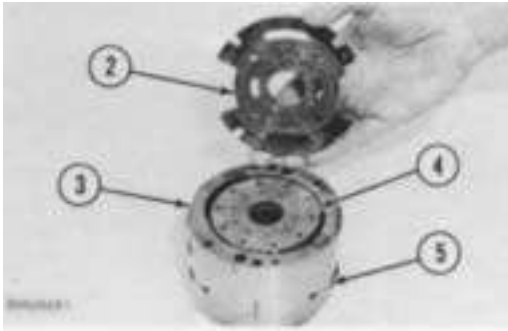

FIGURE 7-38
2. Install the wear plate (5, Figure 7-38) on the pressure plate. Insert the vanes into the rotor (4). The leading edge of each vane must be toward the direction of pump rotation. Hold the vanes in place by winding a rubber band around the rotor.